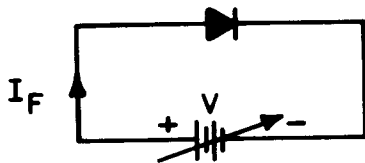

Figure 3-2. P-N Junction Biased in the Forward Direction
With positive voltage applied to the P-junction and negative voltage applied to the N-junction, the diode is said to be forward biased, as shown in Figure 3-2. The current (I_f) increases rapidly with small increases in applied voltage (V).